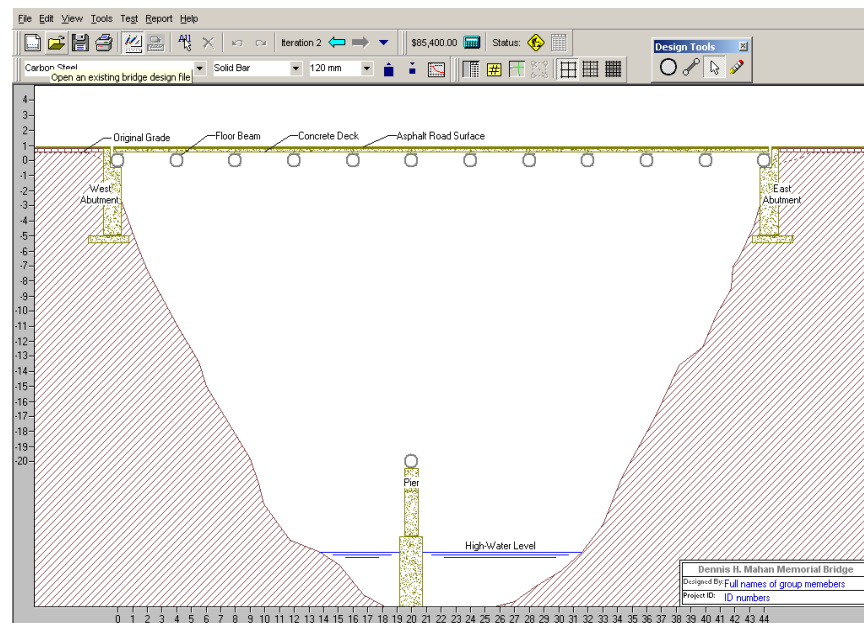

Fig. 1: The construction site
- Open the file “BridgeSite.bdc”, found in the course web site, with the “West Point Bridge Designer” software – this is the bridge construction site. You need to construct a bridge between the two banks of the river using a single pier, see Fig. 1.
- Optimization requirement: minimize bridge cost, as calculated by the software. The calculated cost is affected by: (1) number of joints, and (2) the cost of each member depends on material type, quantity of material used, and cross-section geometry (bar or tube). For details press the “report cost calculations” button in the software main menu.
- The submitted design must include the students name in the “design title” (found at the lower right corner, see Fig. 1).